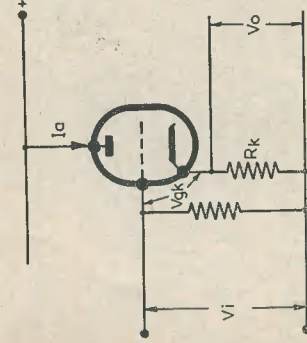

Fig. 1
The cathode follower has the attributes of high input impedance and low output impedance. Its basic circuit is shown in Fig. 1.
The circuit is certainly simple, but it is not immediately obvious why it should operate as suggested above. It has also, in common with every other device, a snag. In this case it is gain. The gain of the circuit shown in Fig. 1 can never be more than one, and in practice is always less than one.
So the larger gmR_k becomes, the nearer the gain will be to one. A high gm value is obviously desirable; but a gm above 10 mA/volt is rare, so to make gmR_k large enough to ignore the additional one in the denominator of expression (2), R_k would have to be, say, 10kΩ. This would represent a gain of 0.99. There is, however, one little difficulty. In the circuit of Fig. 1 a 10kΩ cathode resistor would produce a rather excessive grid bias. If we were to choose a more reasonable resistor, from the bias point of view, of, say, 500Ω, it would reduce the gain to 0.83.